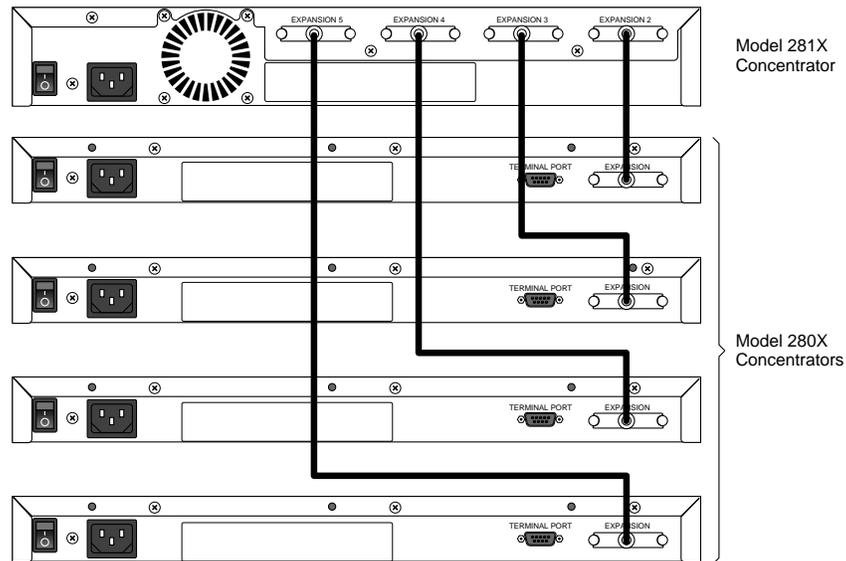

Figure 3-10. Connecting Cluster Configurations
2. **Connect the Model 280x concentrators to the Model 281x, using the Model 988 Expansion Cable that was shipped with each Model 280x (see Figure 3-10):**